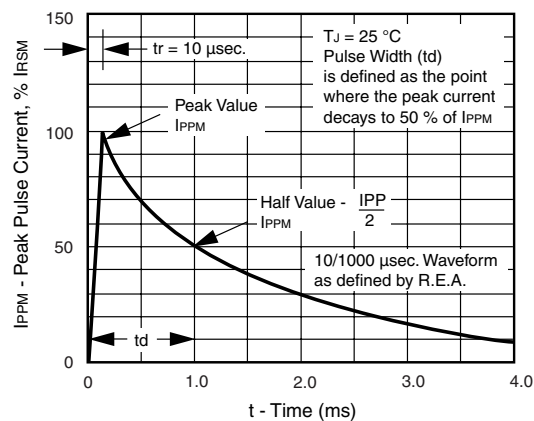
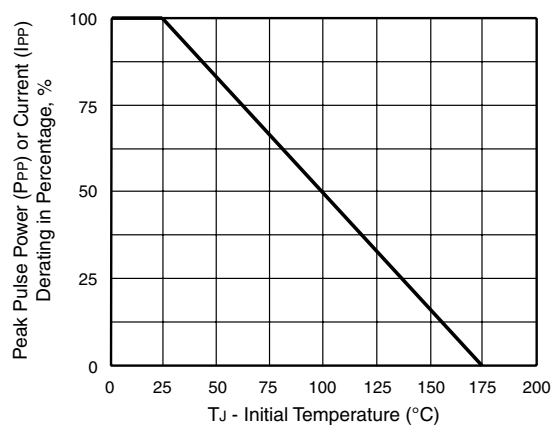

Figure 3. Pulse Waveform
Figure 2. Pulse Power or Current vs. Initial Junction Temperature
(2) Surge current waveform per Fig. 3 and derate per Fig. 2
(3) All items and symbols are consistent with ANSI/IEEE C62.35